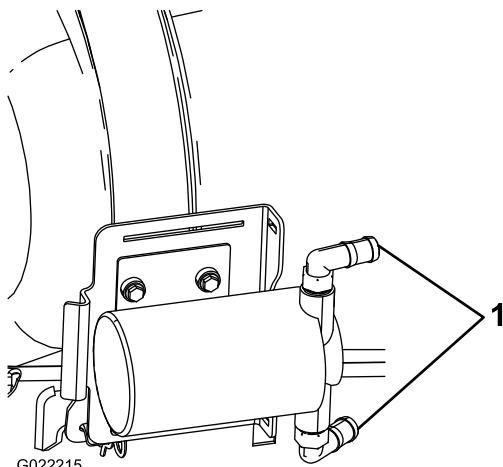

Figure 10
5. Attach the pump hosebarbs as shown in Figure 10.